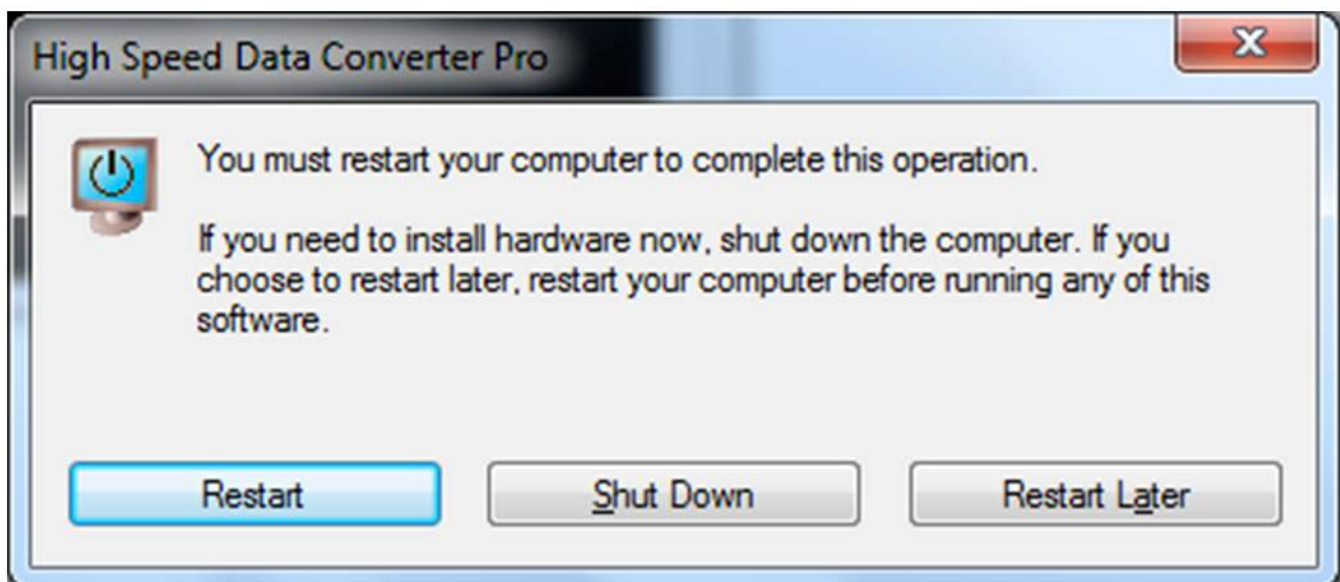

Figure 40. HSDCPro Install
- As shown in Figure 40 a restart might be requested depending on whether or not the PC already had the National Instruments MCR Installer. If requested, hit the *Restart* button to complete the installation.